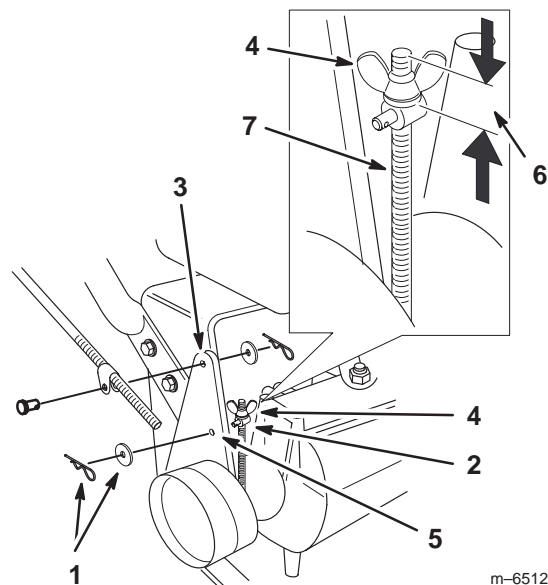

Figure 39
Note: For the initial adjustment, adjust the wing nut until it is 1–1/4 inches from the top of the rod (Fig. 39).
5. To adjust the brake remove the hair pin cotter and washer from the brake lever and trunnion (Fig. 39).
8. Install the trunnion into hole **F** (Fig. 39). Tighten the wing nut.
9. Secure trunnion to brake lever with washer and hair pin cotter (Fig. 39).